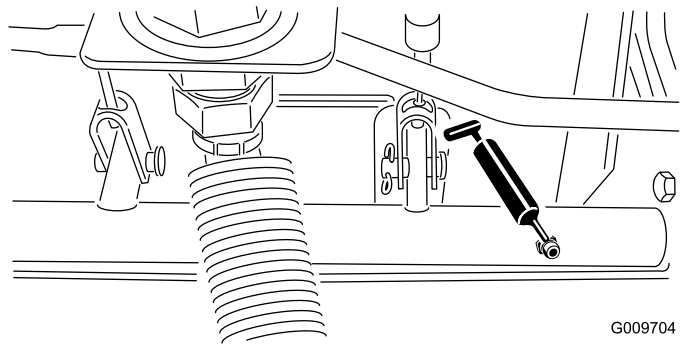

Figure 23
- Brake shaft pivot bearings (5) (Figure 23)